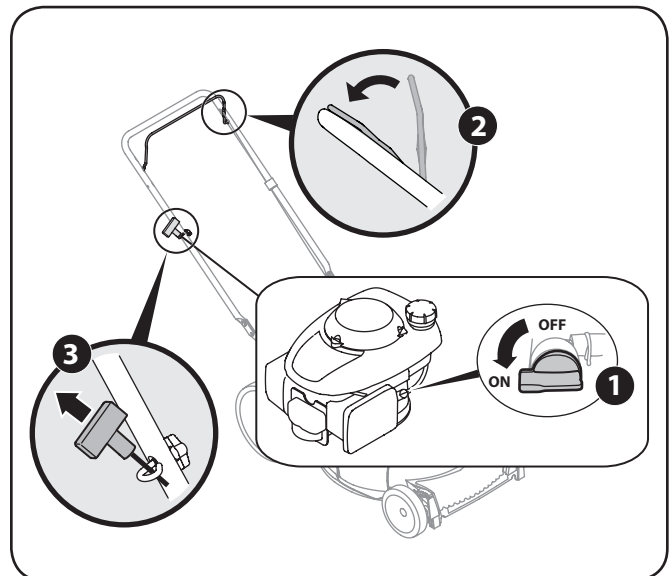

Figure 5-2
1. Place the fuel valve lever found on the left side of the engine into the ON (OPEN) position. See Figure 5-2.
3. Holding these two handles together firmly, grasp recoil starter handle and pull rope out with a rapid, continuous, full arm stroke. See Figure 5-2. Keeping a firm grip on the starter handle let the rope rewind slowly. Repeat until engine cranks. Let the rope rewind each time slowly.